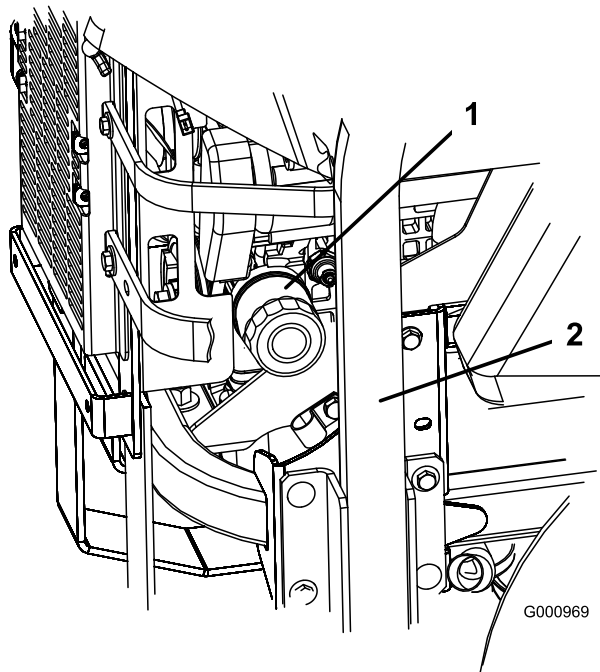
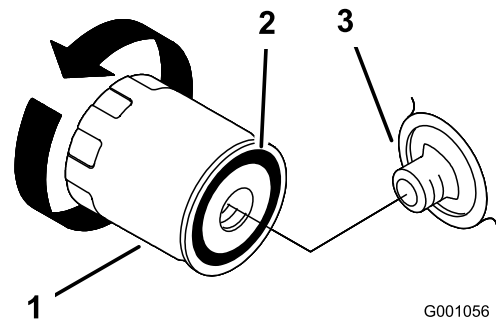

Figure 43
Figure 44
3. Turn the filter counterclockwise to remove it (Figure 43 and Figure 44).